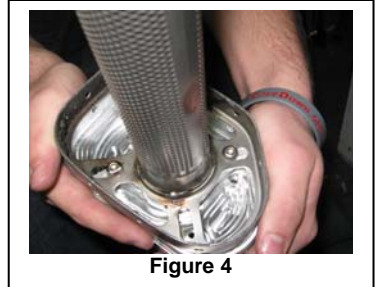

Figure 4
10. Attach the stock inner core to the new endcap as shown in **Figure 4**